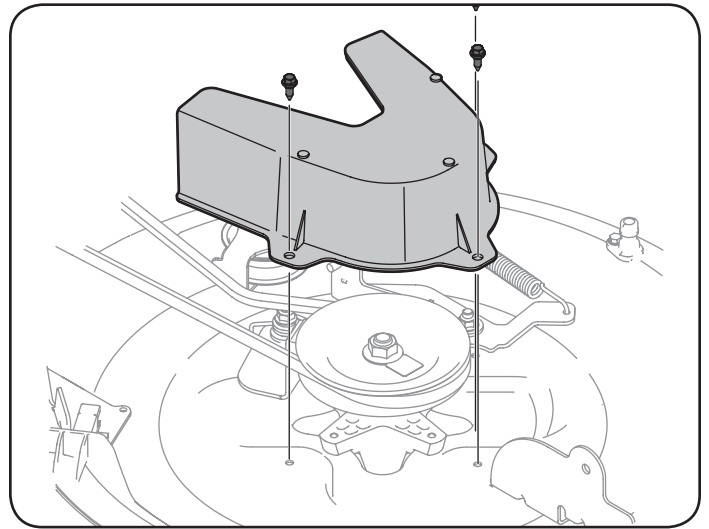

Figure 37
- Remove the deck belt cover by removing the three hex bolts that secure it. See Figure 37.